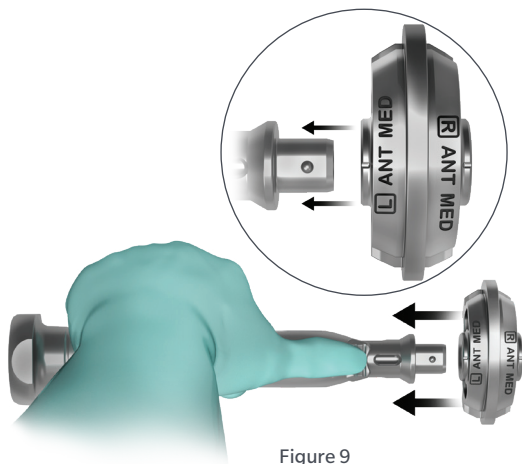

Figure 9
**Note:** The tibial perimeter impactor head can be flipped to mate with either the “Left” or “Right” tibial perimeter cone implants (Figures 9 and 10).